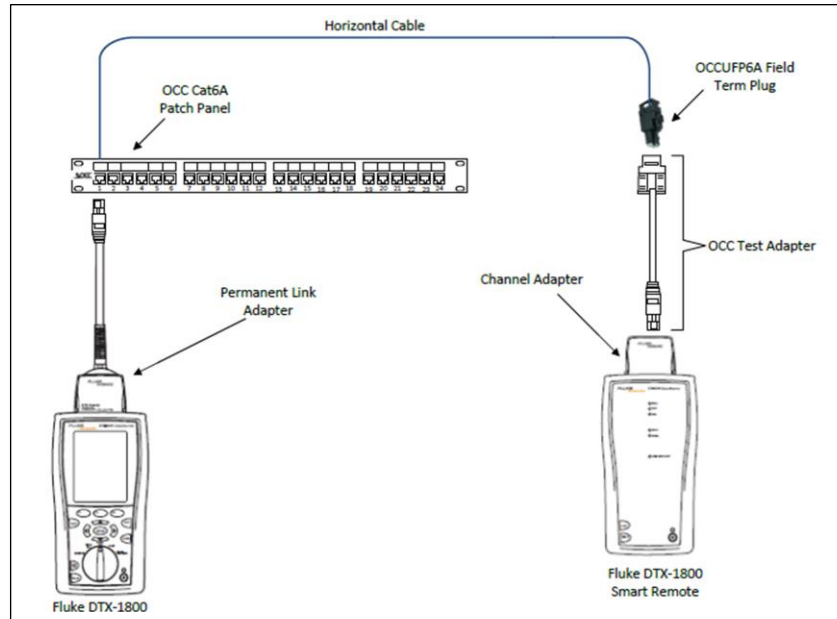

Figure 1: Modified Permanent Link with OCC Field Plug Test Adapter
Single connector modified permanent link utilizing an OCC field plug test adapter and a Fluke Networks DTX-1800 tester. See figure 1.
Step 4: Connect the test equipment to the installed cabling as shown in Figure 1.